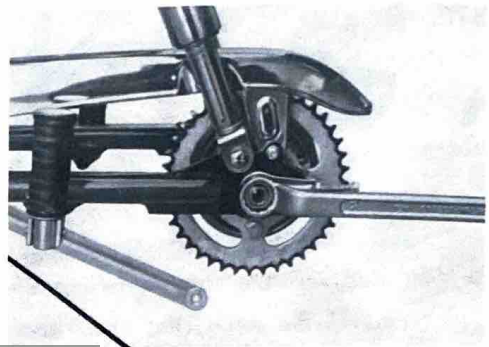

Fig. 5-4-2
- 2) Remove the sprocket shaft nut, then the sprocket. (Fig. 5-4-2)